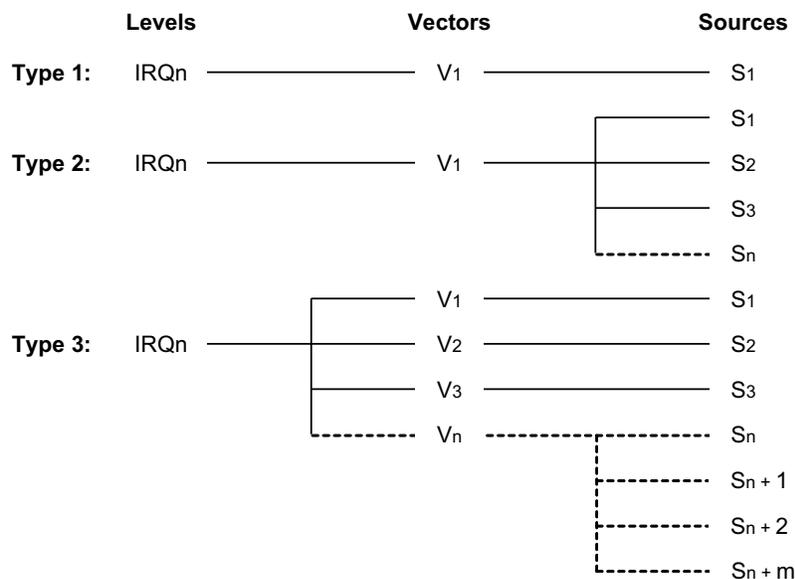

Figure 45. S3F8 Series Interrupt Types
In the S3F8S45 microcontroller, all three interrupt types are implemented; see Figure 45.
► **Note:** In Figure 45, the number of Sn and Vn values is expandable. In the S3F8S45 implementation, interrupt types 1 and 3 are used.